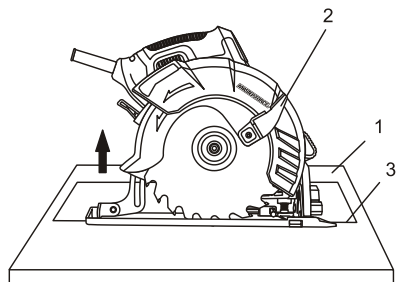

Fig. 11
4. Set the saw on the workpiece (1) so the sole plate is flat on the workpiece (Fig. 11).
5. Open the blade guard by rotating the blade guard lever (2) forward.
6. Align the saw blade with the cutting line (3) using the 0° cutting mark on the sole plate.